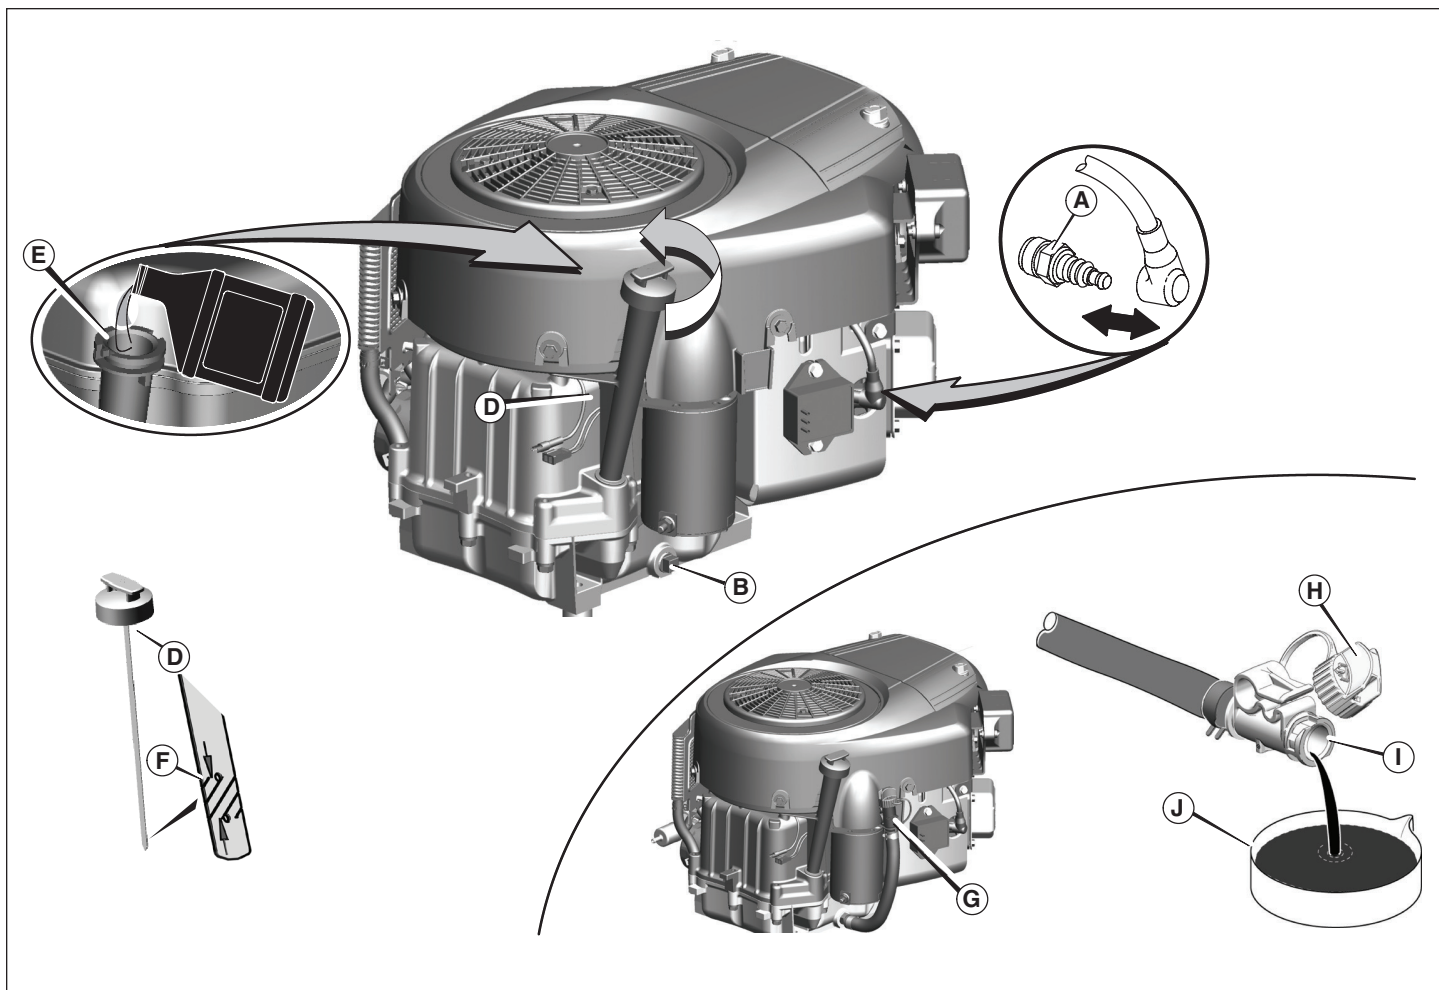

Figure 20
1. With engine off but still warm, disconnect the spark plug wire (A, Figure 20) and keep it away from the spark plug.
2. Remove the dipstick (D).
1. Remove the oil drain plug (B, Figure 20). Drain the oil into an approved container.
1. Disconnect the oil drain hose (G, Figure 20) from the side of the engine.
2. Turn and remove the oil drain cap (H). Carefully lower the quick oil drain (I) into an approved container (J).
1. Remove the dipstick (**D**, Figure 20) and wipe with a clean cloth.